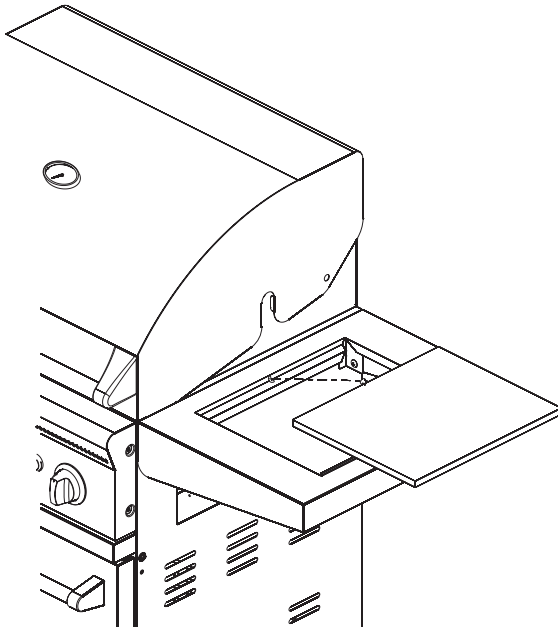

Figure 6
12. Fit screw head on cutting board to the opening on side shelf and lay the cutting board down. See Figure 6.